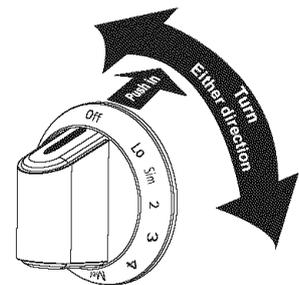

Figure 2
2. Push in and turn the surface control knob in either direction to the desired setting (Figure 2). Turn the knob to adjust the setting if desired. Start most cooking operations on a higher setting and then turn to a lower setting to finish cooking. Each surface element provides a constant amount of heat at each setting. A glowing red surface heating area extending beyond the bottom edge of the cookware indicates the cookware is **too small** for the surface heating area.
The cooktop is equipped with a dual radiant surface element located at the right front (See Figure 1) position. Words on the control knob are used to indicate which coil of the dual radiant element will heat (Figure 2). **Single** indicates that only the inner coil will heat (Figure 3). **Multi** indicates that both inner and outer coils will heat (Figure 4). You may switch between settings at any time during cooking.